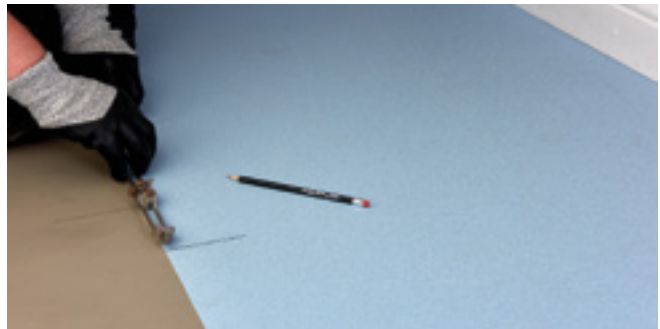

Figure 4 Setting the scriber
- ▶ Set the scribers to the distance now between lines C and D (fig. 4). Trace the end wall profile and cut to fit as described earlier.